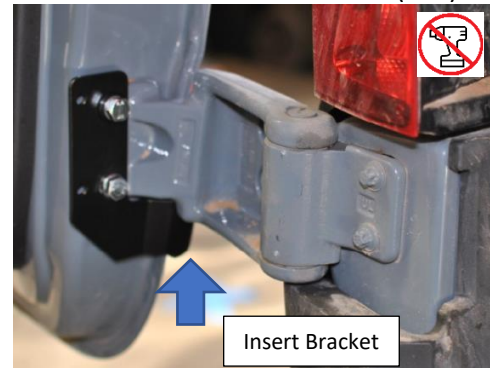

Figure 6: Lower Bracket Installed
19. Install the lower hinge bracket following the same procedure detailed in Step 18 and by installing over the hinge from the bottom up. Reference Figure 6.